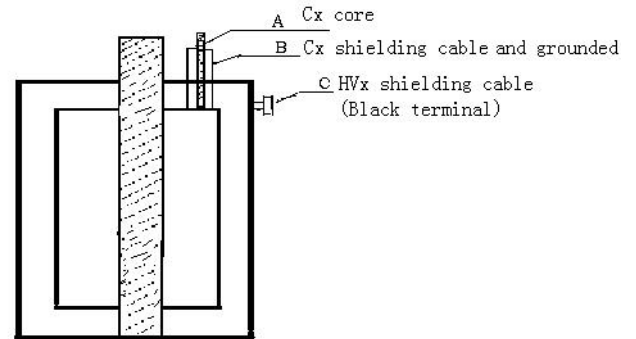

Figure 15 Connection of dielectric loss oil cup
- B. Lead See Figure 15
- D. (C) connected to HVx shielding cable (Black terminal)
- E. (A) connected to Cx core
- F. (B) connected to Cx shielding cable and grounded